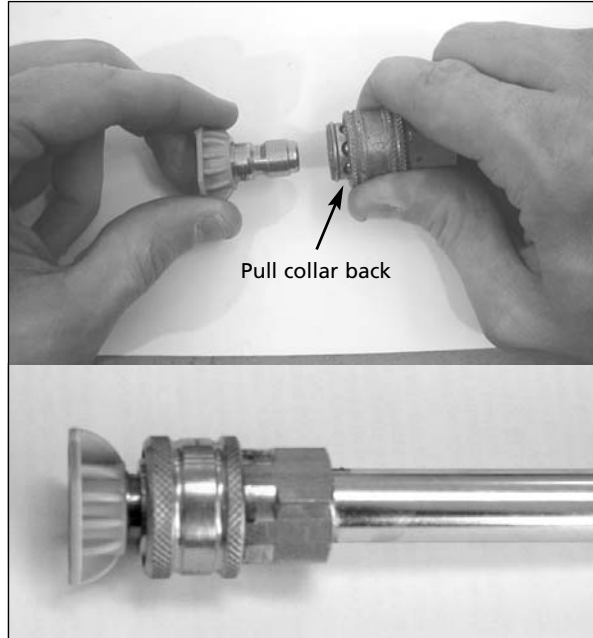

Figure 7 - Quick Connect Tip
6. Install quick connect tip by pulling back on collar and pressing in tip. Release collar, make sure it completely returns to its forward position and tip is secure (See Figure 7).